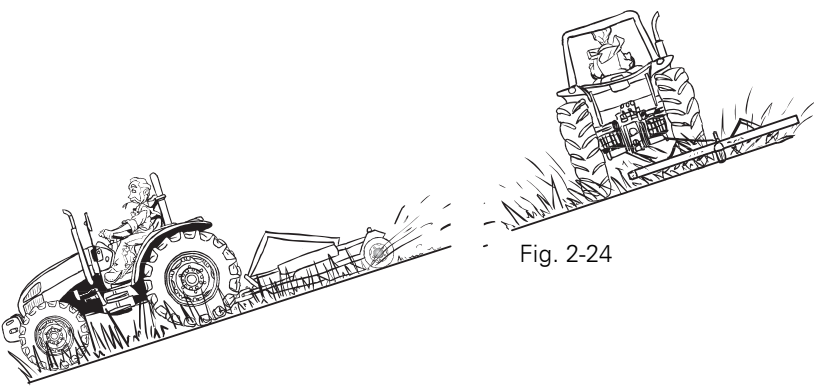

Fig. 2-24
- When travelling across a slope with side mounted implements, keep the implement on the uphill side (Fig. 2-24). Don't raise the implements. Keep them as low to the ground as possible when crossing a slope.